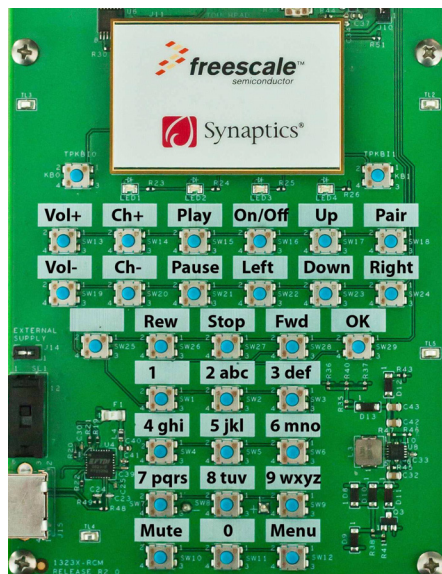

Figure 7. 1323x-RCM Function Button Mapping
11. The mapping between 1323x-RCM board buttons and remote control functionality is shown by the labels in Figure 7.